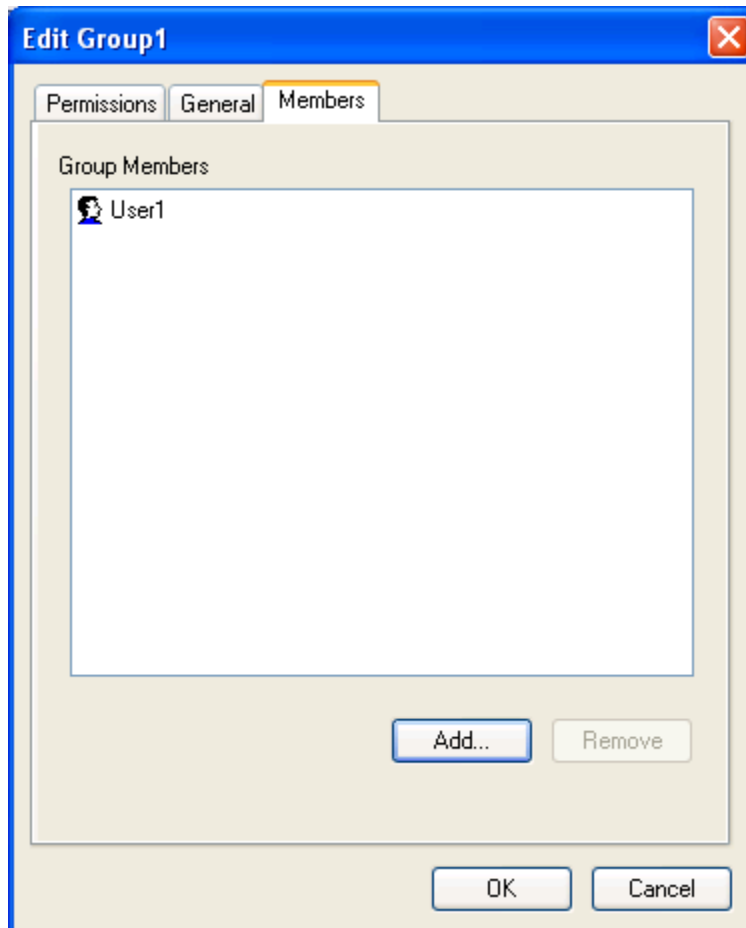

Figure 55 - Edit <Groupname> Window (Members Tab)
On the **Members** tab (Figure 55), the users that are part of the current group are defined. By default, the **Group Members** screen section is empty. In Figure 55, **User1** has been added to **Group1**.
3. Click on the **OK** button. The selected user or users appear in the **Group Members** screen section on the **Members** tab (Figure 55).